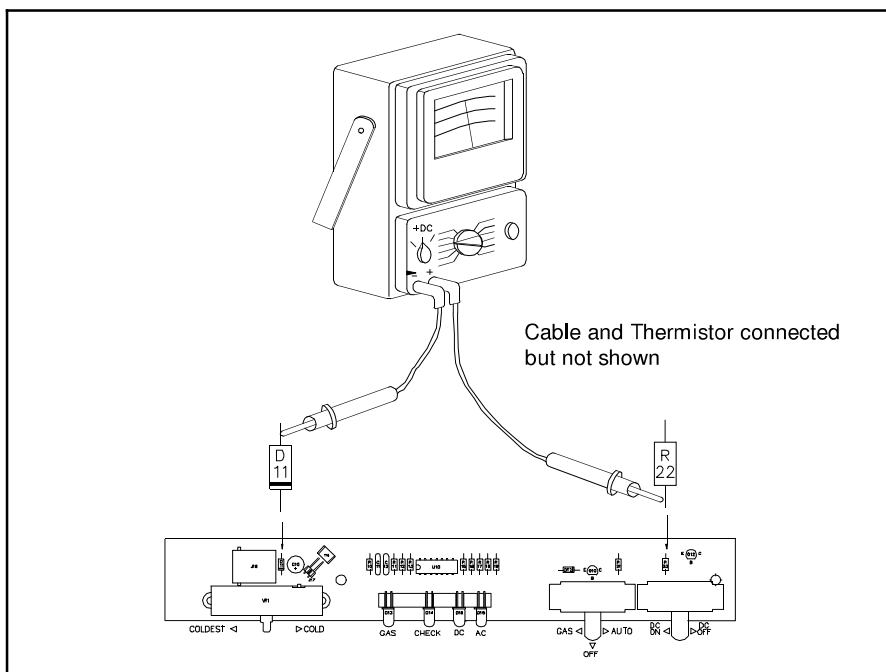

Figure 11.58 Control Voltage Check
14. Set the volt-ohm-meter to measure + 12 volts DC, and check for 10 volts at R22 and D11 as shown in Figure 11.58.